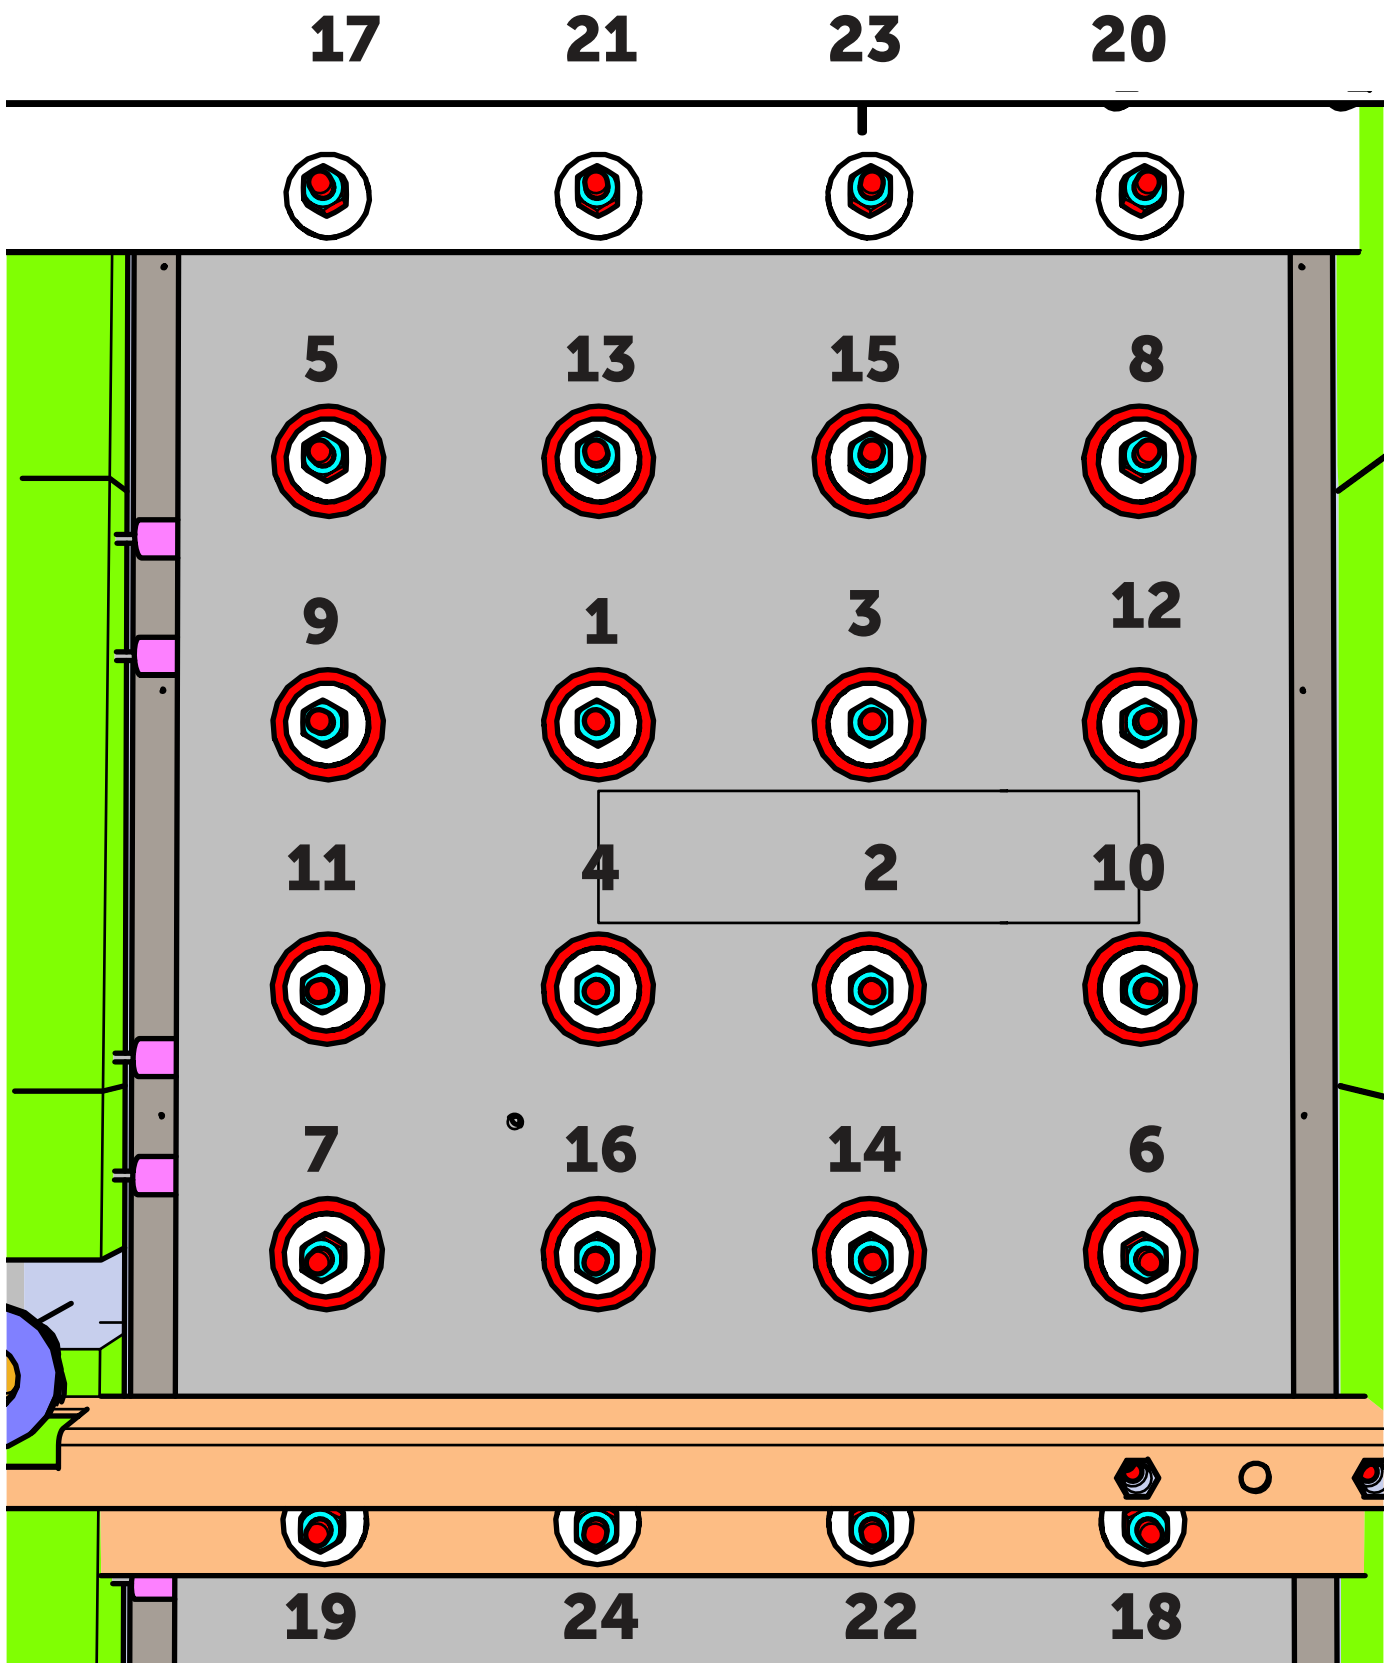

Fig. 1
22. Install new nuts on the studs and hand tighten. Use an inch pound torque wrench and tighten each nut to 25 inch pounds per the tightening sequence in Fig 1 on page 6. **Do not over-tighten the nuts!** Repeat the tightening procedure with the torque wrench to check that each nut is at 25 inch pounds.